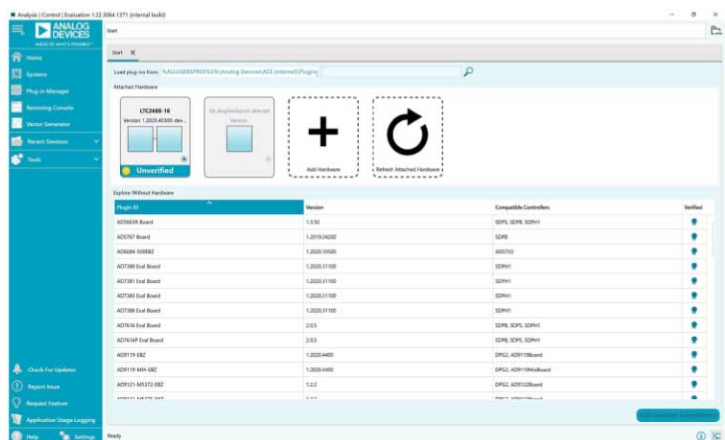
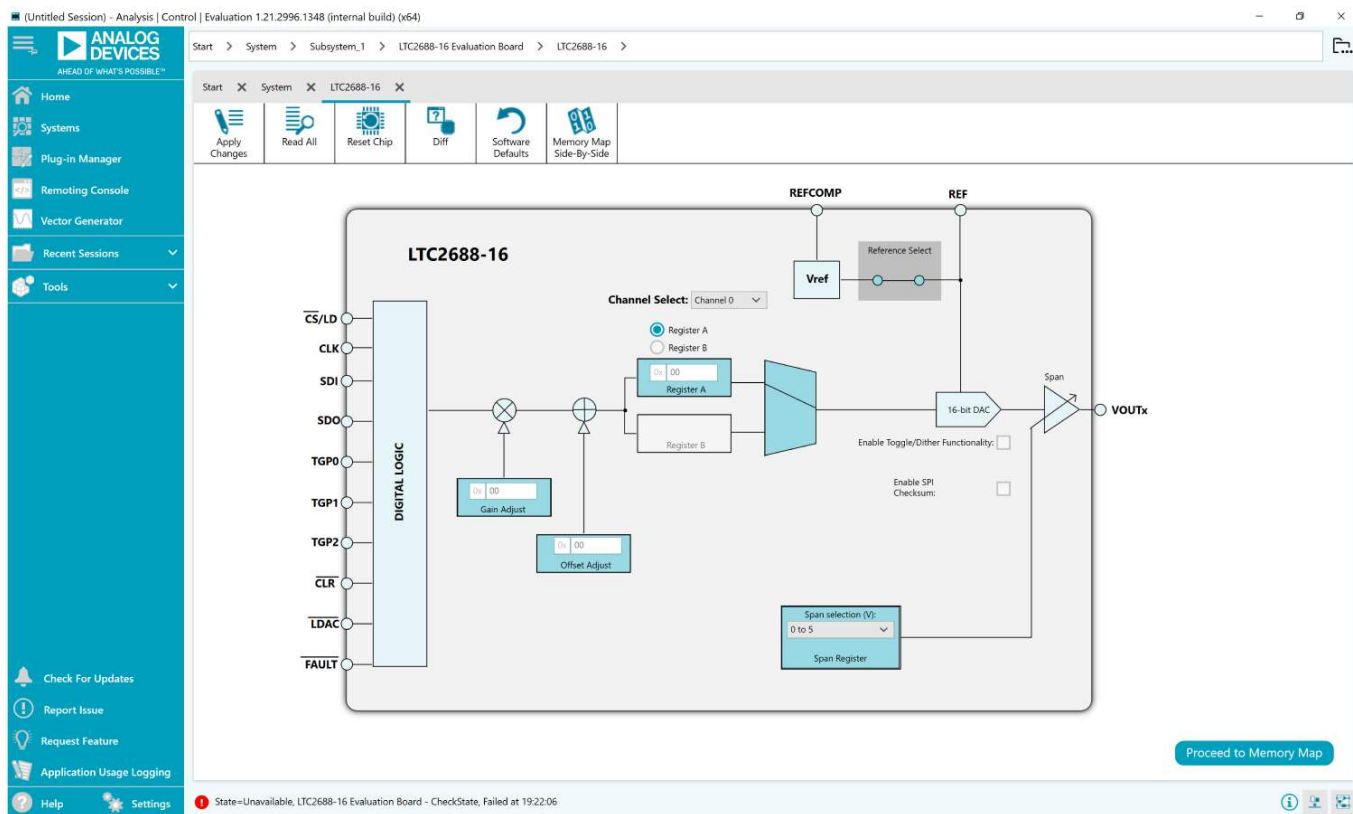
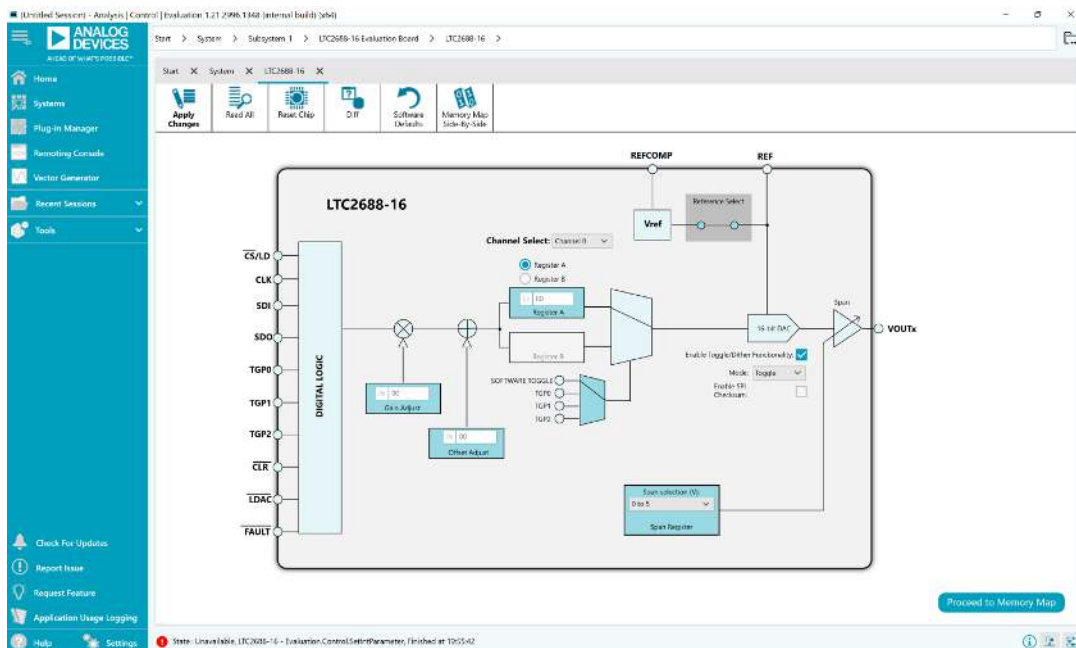

Figure 4. Interface Window
Figure 5. ACE Evaluation Software Main Window
Figure 6. Toggle View
To start the ACE evaluation software, from the **Start** menu, click **Analog Devices > ACE**. The software window opens (see Figure 4) until the software recognizes the DC2873A. When the software recognizes the DC2873A, the main software window in Figure 5 opens.
In the main ACE evaluation software window (see Figure 5), each channel can be controlled. Various settings for the LTC2688 are available in this window, allowing the user to configure the output range, output voltage, gain adjustment, offset adjustment, toggle options, and dither options of each channel.
The DC2873A uses the LTC2688 internal reference to set the full-scale range. To apply an external reference, click the box labeled Reference Select (see Figure 5).
2. Select the desired range for the selected channel using the **Span selection** dropdown box (see Figure 5).
2. Type the desired value into the **Register A** text box (see Figure 5).
2. Type the desired hexadecimal value into the **Register A** (or **Register B**) text box (see Figure 5).
2. Type the desired hexadecimal offset or gain adjust value into the **Offset Adjust** or **Gain Adjust** text boxes (see Figure 5).
Toggle mode can be enabled by selecting the **Enable Toggle/Dither Functionality** check box (see Figure 5). This check box enables the toggle view shown in Figure 6. The toggle signal can then be applied to the selected pin or supplied internally.
After enabling the toggle view shown in Figure 6 as described in the Enabling Toggle Mode section, select the dither mode from the
To access the **LTC2688-16 Memory Map** view, click the **Proceed to Memory Map** button from the software main window (see Figure 5).